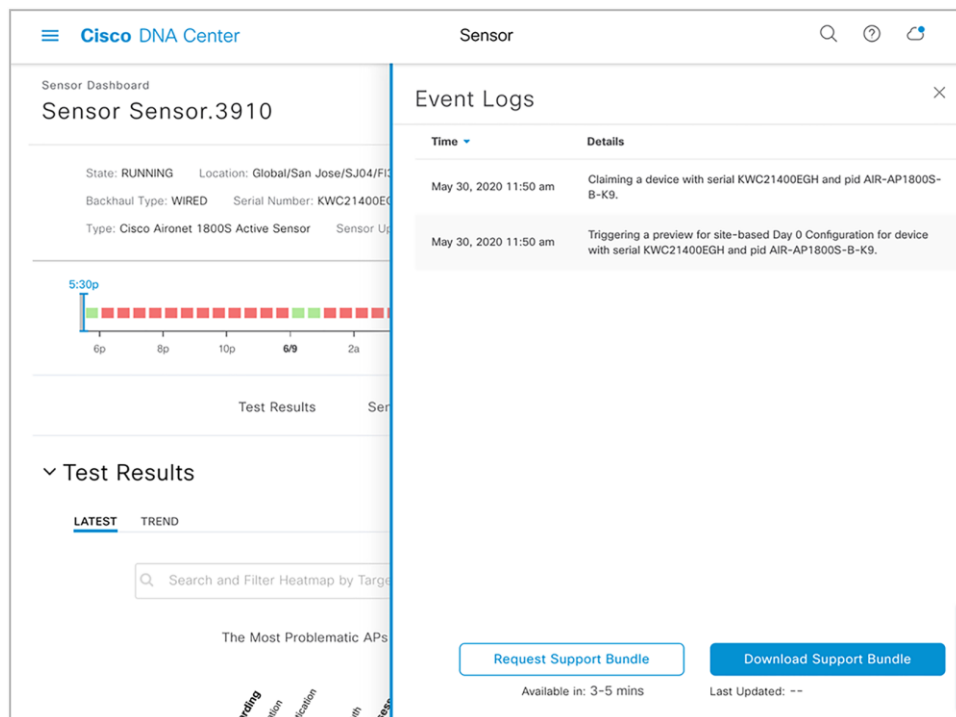

Figure 106.
1. To view sensor troubleshooting logs, navigate to the Sensor 360 page and click View Logs. The Event Log page will show the sensor event logging viewer and provides a downloadable sensor TAC support bundle (**Figure 106**).